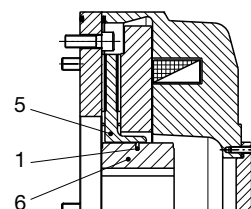

Fig. 5
- Noise damping (O-ring damping between the gear hub and the rotor), Fig. 5